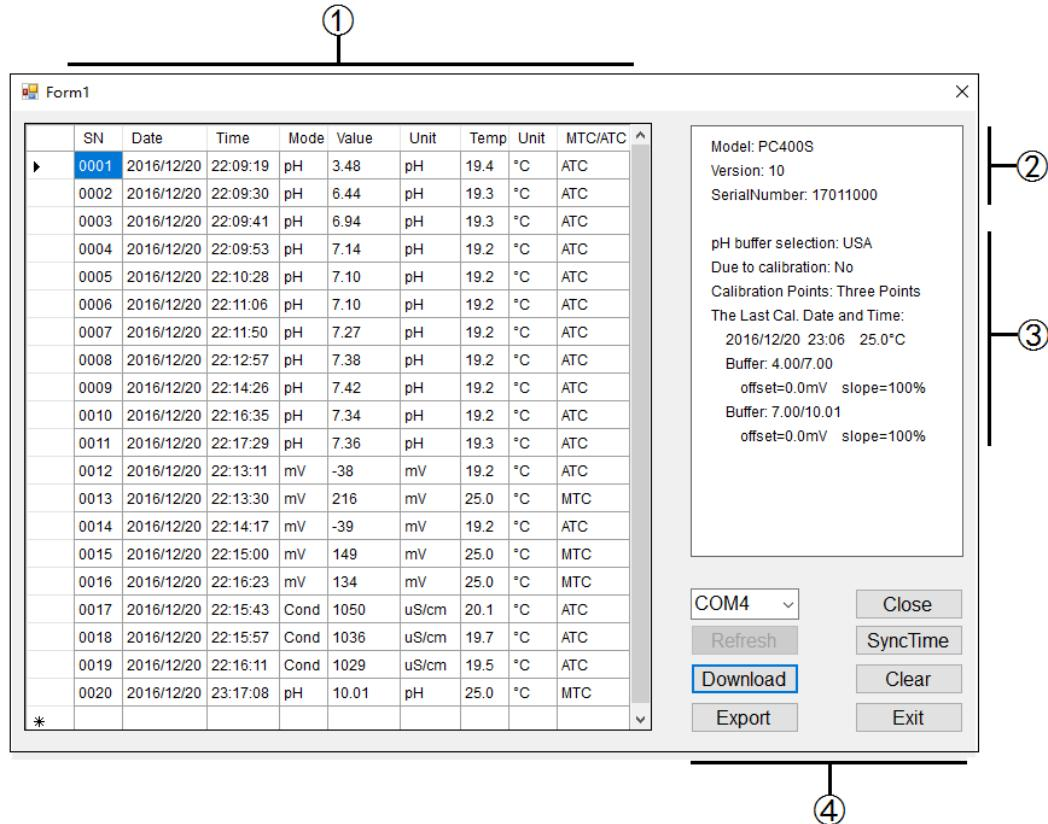

Figure- 15
① — Stored data
- Press **M+RM** after the meter is connected to the computer, or set up auto timing storage function. In this case, all the measuring data will be uploaded to the software, and will not be stored in the meter. See figure-15.
② — Model and Numberings
③ — Calibration information
④ — COM Port #and other buttons
COM Port # is the number for the software to connect with the computer. Every computer's COM port is different. In Figure-15, the COM port # is COM4.